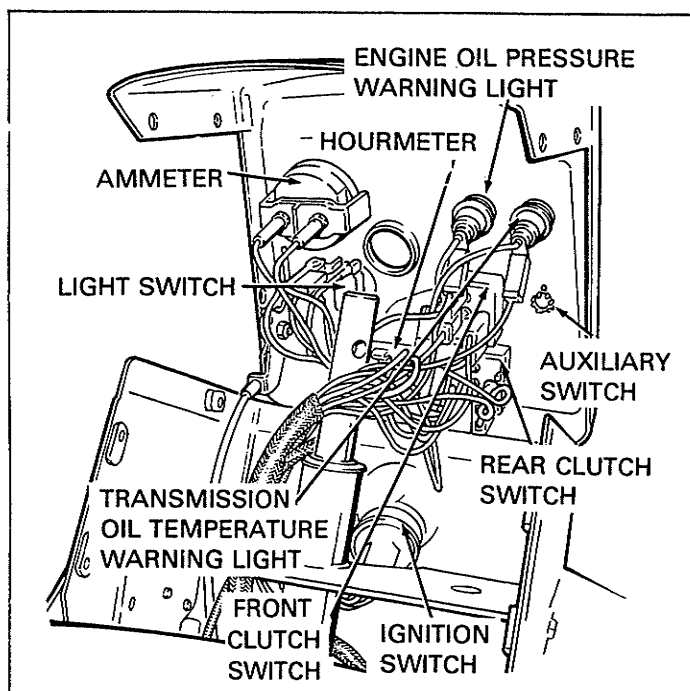

**Figure 86. Flywheel Puller**
5. Install a puller bar (Onan Part No. 420A100) on the flywheel as shown in Figure 86. Turn the puller bar bolts in, alternately, until the wheel snaps loose on the shaft.